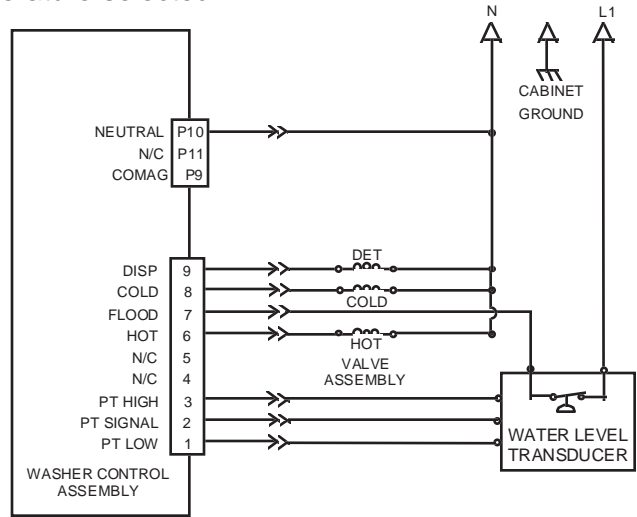

Figure 4
4. If the water level reaches an overflow condition mechanical contacts on the water level transducer will remove the CPU 120V from pin 7 of connector P1. This is the power to energize the fill valves. (Fig. 4)